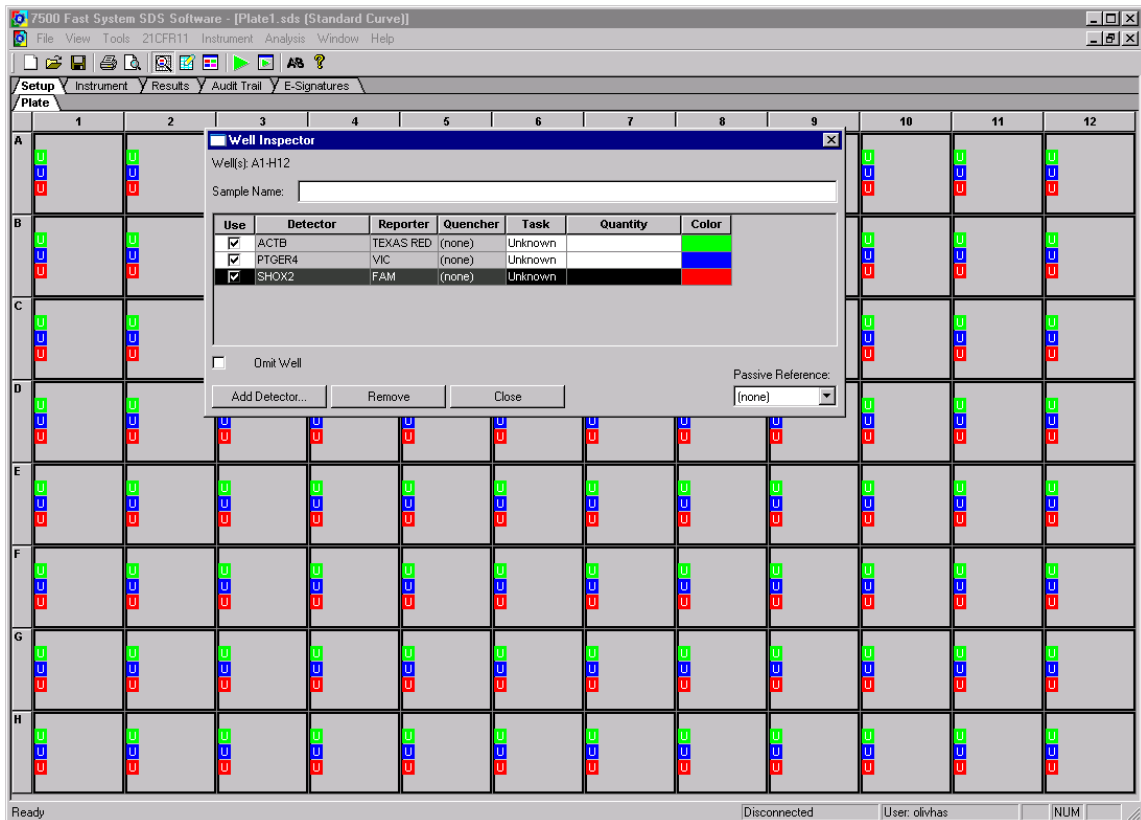

Figure 2: Screenshot after confirming settings in the 'Well Inspector' window.
- Check the Passive Reference setting to be "(none)" (see Figure 2).